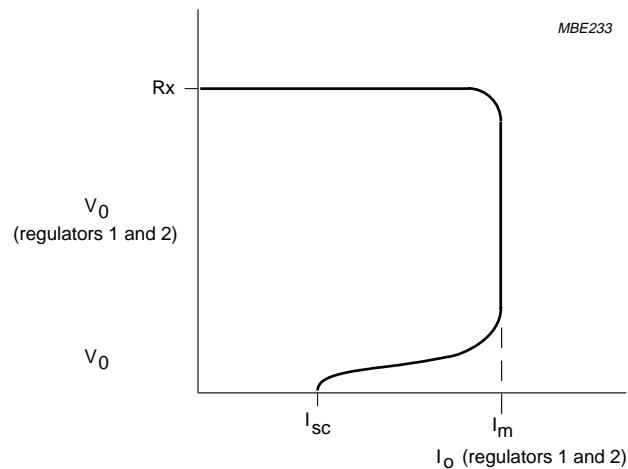

Fig.5 Foldback current protection of the regulators.
CHARACTERISTICS $V_P = 14.4 \text{ V}$; $T_{\text{amb}} = 25^\circ\text{C}$; see Figs 5 and 6; unless otherwise specified.
8. At current limit, I_{REGm} is held constant (behaviour in accordance with the broken line in Fig.5).
9. The foldback current protection limits the dissipated power at short-circuit (see Figs 5 and 6).